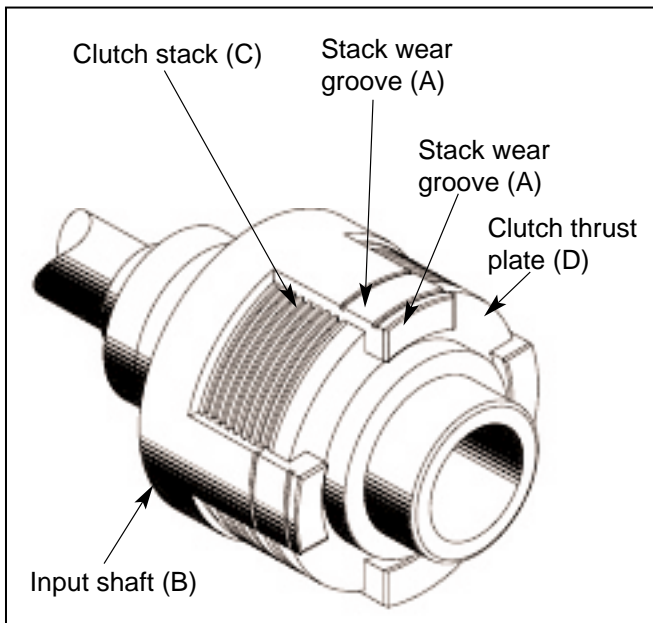

Figure 11.2 STACK WEAR GROOVES.
Two "stack wear" grooves (A) have been machined in the input shaft (B) lugs to facilitate this visual check (see figure 11.2)
3. Using a flashlight, observe the clutch stack (C) through the inspection port (see figure 11.2).
If the rear surface of the clutch thrust plate (D) has moved up to or past the "stack wear" groove (A), the clutch stack needs to be replaced (see figure 11.2).